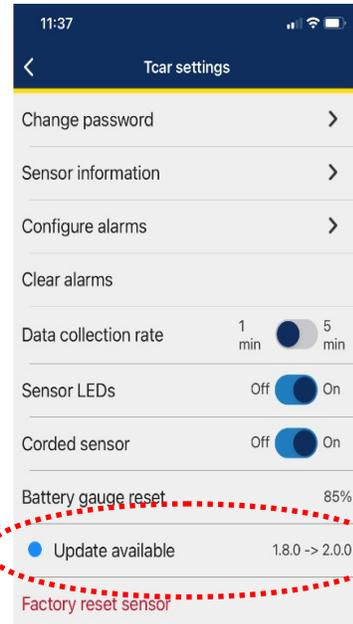

Figure 43
2. Select **Update available** (figure 43).